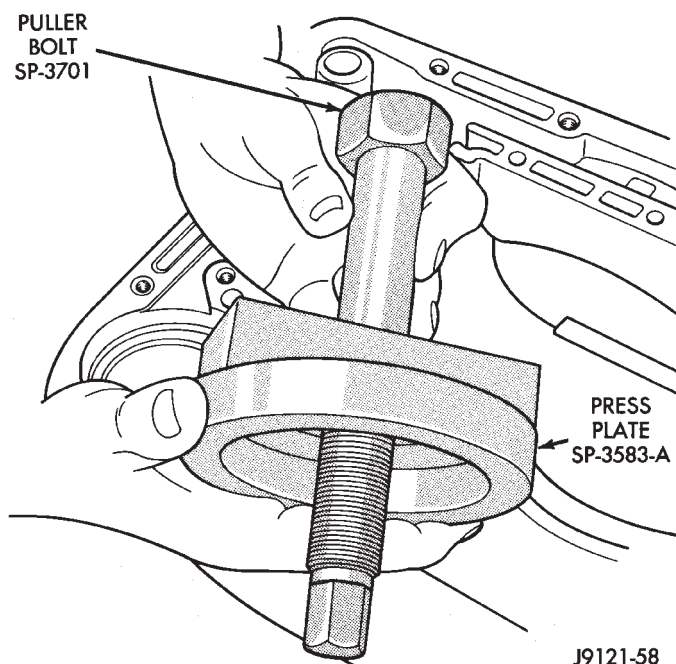

Fig. 43 Assembling Clutch Cam Puller Bolt And Press Plate
(8) Assemble Puller Bolt SP-3701 and Press Plate SP-3583-A (Fig. 43).